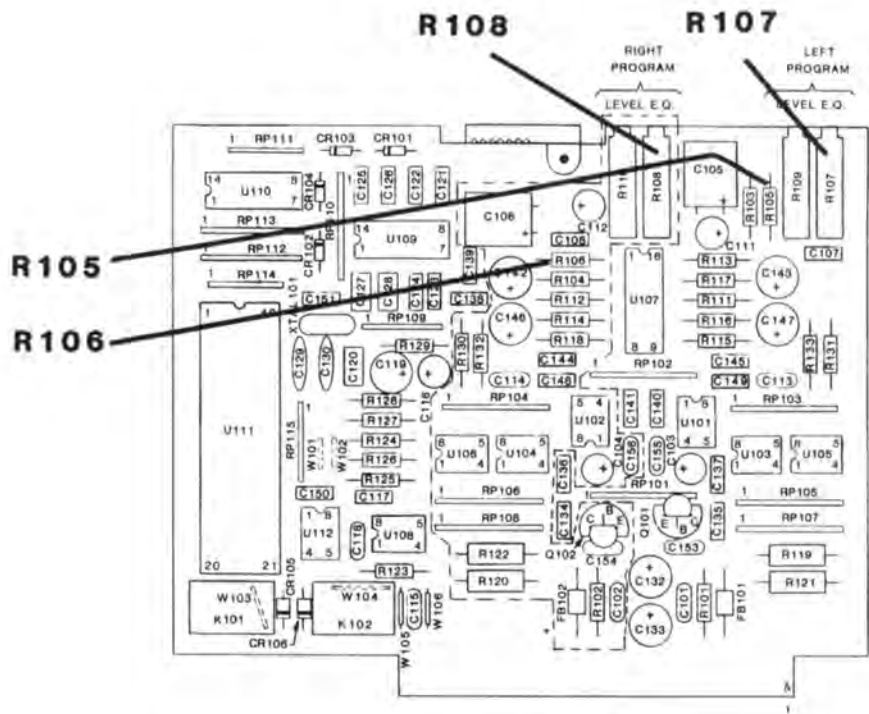
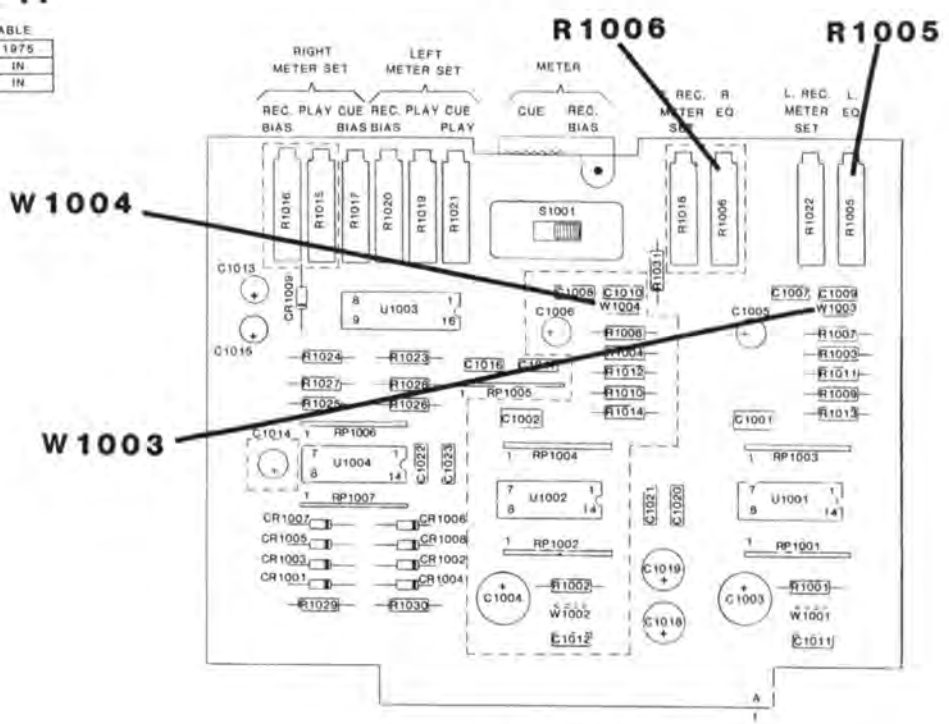

Fig. 2-15
Fig. 2-16
A. 1964 NAB Standard: Refer to Figure 2-15. Change R105 and R106 on the Reproduce Amplifier & Cue Detect PCB from 680K OHM, 1/4w carbon film resistors to 270K OHM, 1/4w carbon film resistors. Remove strap W1003 (and W1004 if the unit is STEREO) on the Record & Meter Amplifier PCB. Figure 2-16 & Table 2-17.
B. CCIR equalization: Potentiometers R107/R108 on the Reproduce Amplifier & Cue Detect PCB and R1005/R1006 on the Record & Meter Amplifier PCB control record equalization for this adjustment. Figure 2-15 & Figure 2-16.